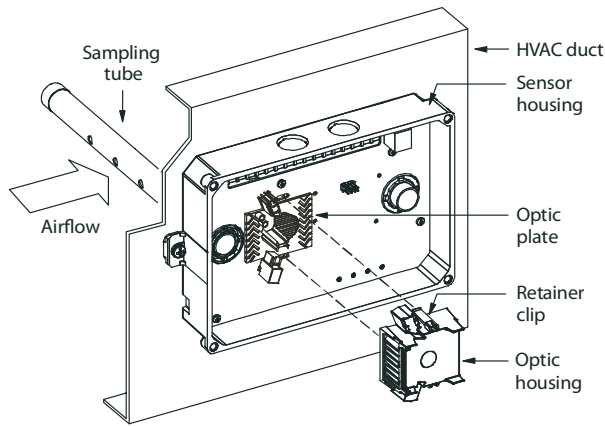

Fig. 12 - Sensor Cleaning Diagram
1. Disconnect power from the duct detector then remove the sensor's cover. (See Fig. 12.)